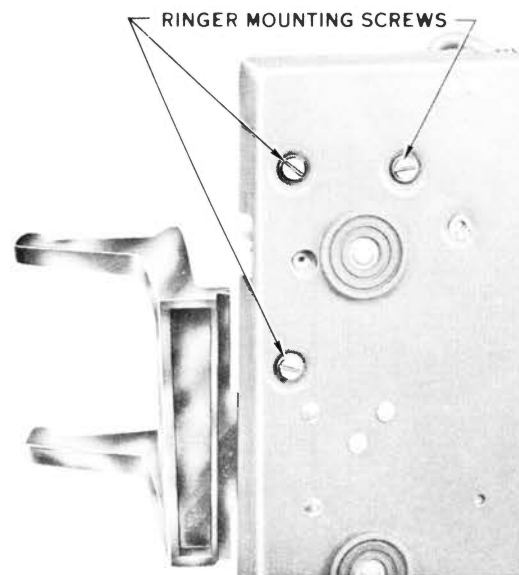

Fig. 7 — Method of Removing Ringer
3.08 To remove ringer (Fig. 7) :
- (1) Remove bezel.
- (2) Remove housing.
- (3) Remove dial mounting plate.
- (4) Disconnect ringer leads.
- (5) Remove three ringer mounting screws, located in bottom of set (Fig. 7).
- (6) Lift ringer out.